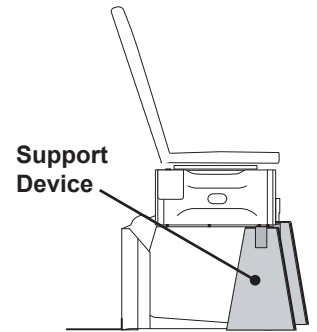

Figure 41.
1. Manually raise table and prop in raised position using a support device intended for this purpose. (See Figure 41). *NOTE: Your support device may vary from example.*